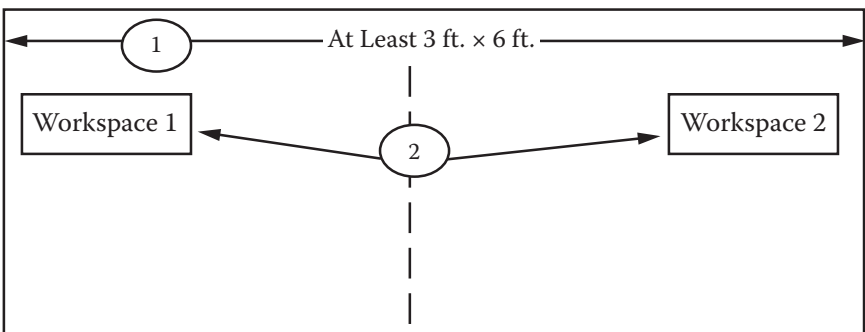

Figure 4.21 Paper on wall with two workspaces.
1. Place a large (at least 3' × 6") piece of paper on a wall or flat surface (Figure 4.21).
2. Outline two “workspaces” on the paper (Figure 4.21).